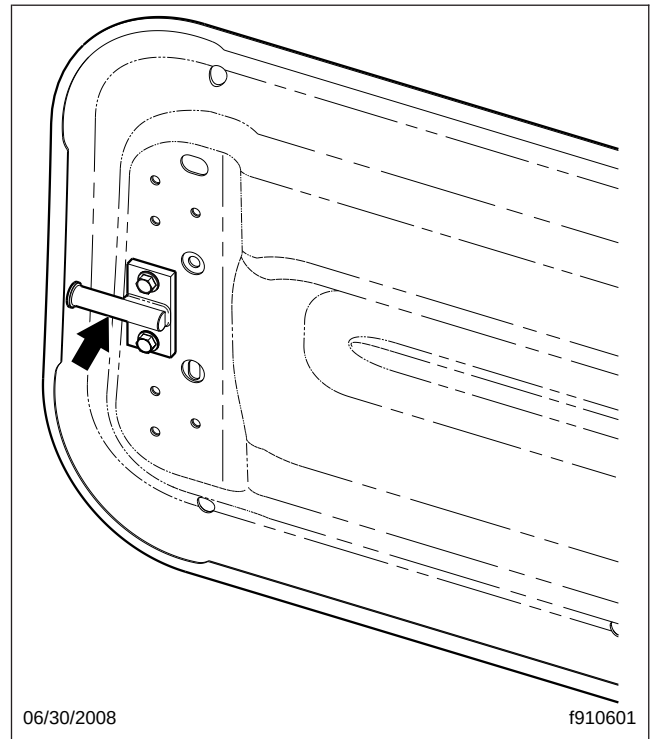
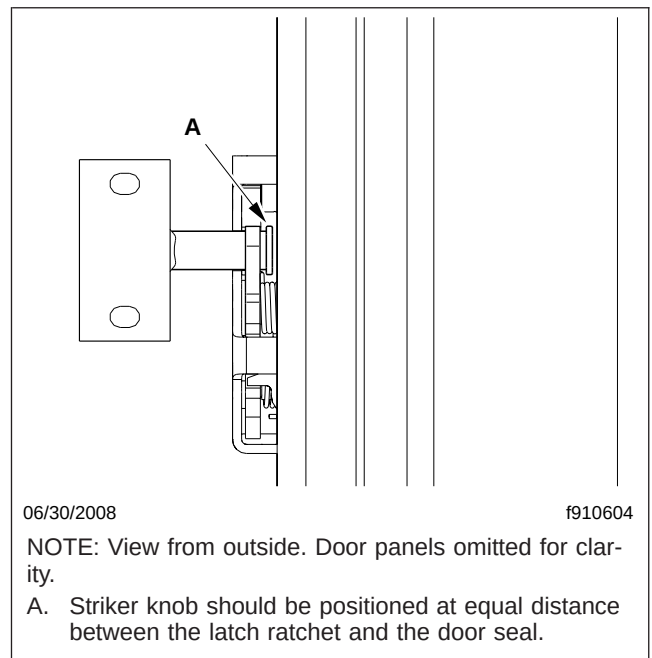

Fig. 2, Striker (baggage door shown)
Fig. 3, Striker Adjustment
4. Loosen and adjust the striker as needed; see Fig. 2. Make sure the striker is horizontal and the striker pin is centered between the latch jaws. The striker knob should be positioned at equal distance between the latch ratchet and the door seal; see Fig. 3.